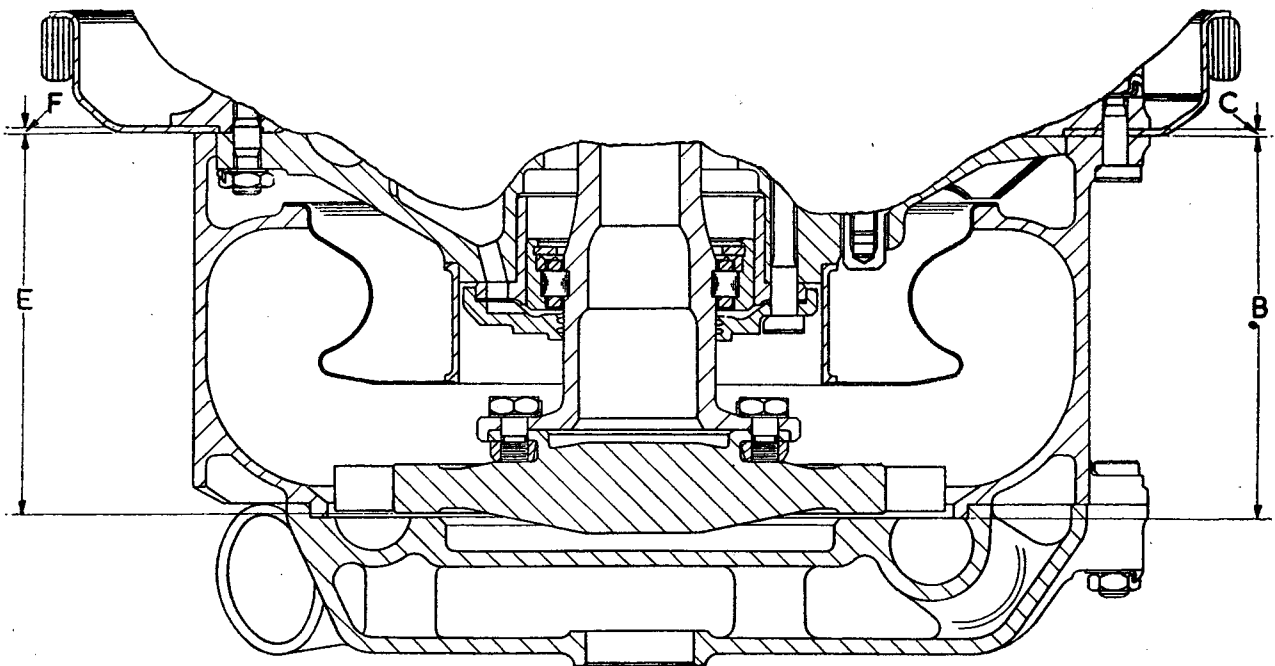

Fig. 2 Measurement of rotor travel
- (2) Measure the distance from the rear face of the exhaust casing to the nozzle face of the inlet casing as shown in fig. 2 with both casings mated together and call this dimension "B".
- (3) Measure the thickness of the fairing support ring flange and call this dimension "C".
- (4) Add dimensions "B" and "C" and call it dimension "G".
- (5) Measure the distance from the bearing panel clamping face on the support stand to the under face of the rotor adjacent to the blades and call this dimension "E".
- (6) Measure the depth of the spigot in the gear casing which takes the fairing support ring and call this dimension "F".
- (7) Add dimensions "E" and "F" and call it dimension "H".
- (8) Subtract dimension "H" from dimension "G"; the resulting dimension being the axial clearance of the rotor to the inlet casing nozzle face when the rotor is in the "full gas" position.
- (9) This clearance must be within the limits of 0.020 in maximum and 0.010 in minimum and may be obtained by the selection of suitable adjusting washers and packing washers when required.
- (10) To measure the rotor travel, lift the rotor and check the travel by direct measurement. Any figure within the limits of 0.570 in maximum and 0.520 in minimum is acceptable. The actual setting on individual starters will vary according to the "no-load" speeds obtained during the acceptance tests.
- (11) To adjust the rotor travel, stop plates of varying thickness should be fitted from the range provided.